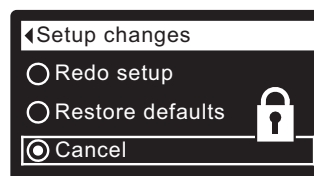

FIG. 35
8. Press the RIGHT (►) button. A flashing padlock icon will appear, as shown in Figure 35.
- 1-7. Go to the **Setup changes** screen (Figure 35) by following Steps 1-7 at left.